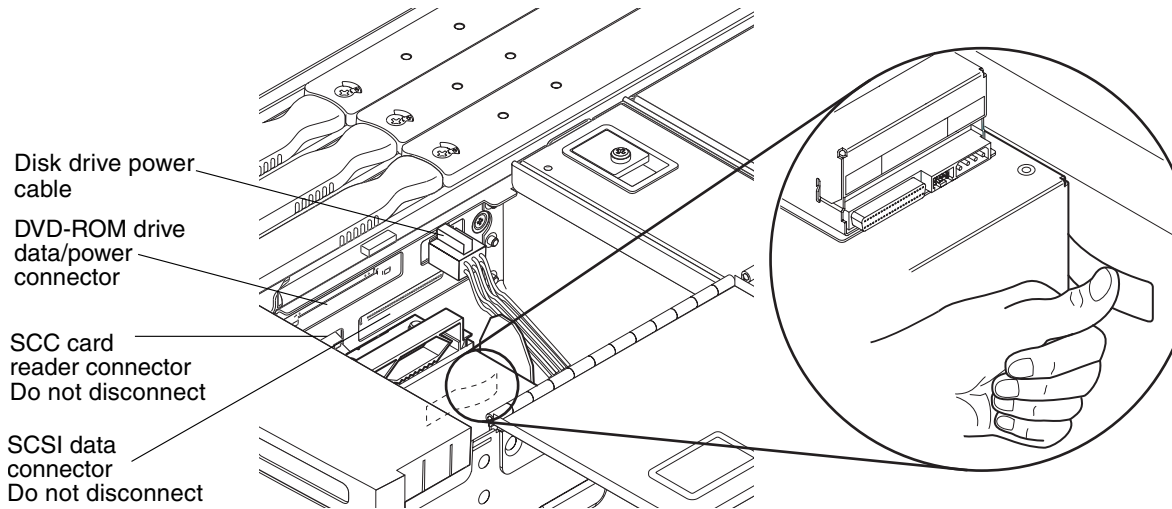

FIGURE 6-7 IB_SSC Assembly Cable and Connector Locations and the Removable Media Module Retaining Spring
9. Disconnect the following cables from the IB_SSC assembly: disk drive power cable, SCSI data cable, SCC card reader cable, and DVD-ROM drive data/power cable (FIGURE 6-7).
11. Locate the convex spring behind the right side of the removable media module. Press it in so it becomes concave (FIGURE 6-7).
5. Reconnect the disk drive power cable, SCSI data cable, SCC card reader cable, and DVD-ROM drive data/power cable to the IB_SSC assembly (FIGURE 6-7).